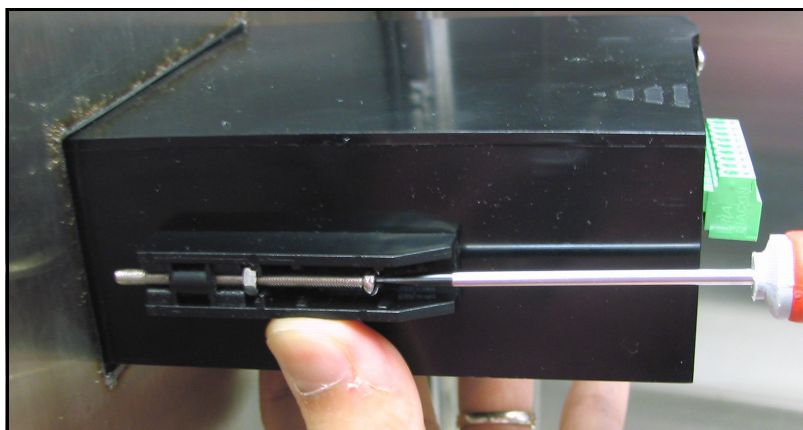

Figure 14: Securing the MTS6 to the Panel
6. Use a screwdriver to extend the bracket screws to the back of the panel and secure the MTS6 in the panel cutout (see Figure 14).